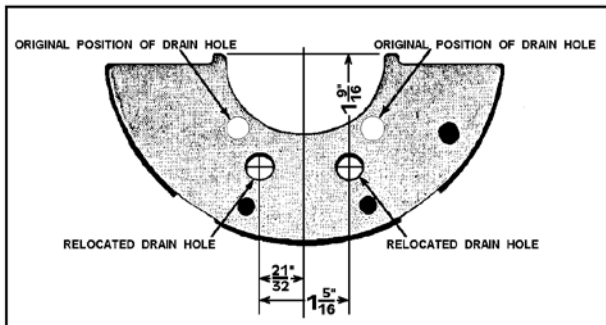

Fig. 1
1. Oil drainage holes in the front main bearing cap have been lowered by approximately 1/2 in. (see Fig. 1).